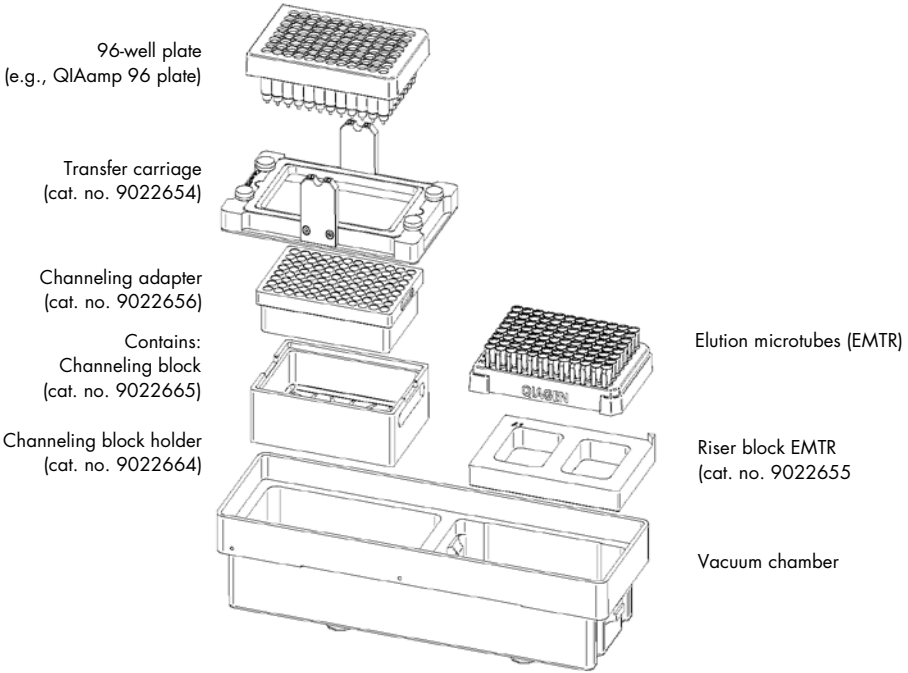

Figure 1. Assembling the vacuum chamber.
Figure 1 illustrates the assembly of the vacuum chamber. For further information, please refer to the *QIAcube HT User Manual*.
16. Prepare the vacuum chamber as shown in Figure 1 on page 15. This assembly is also described in the *QIAcube HT User Manual*.